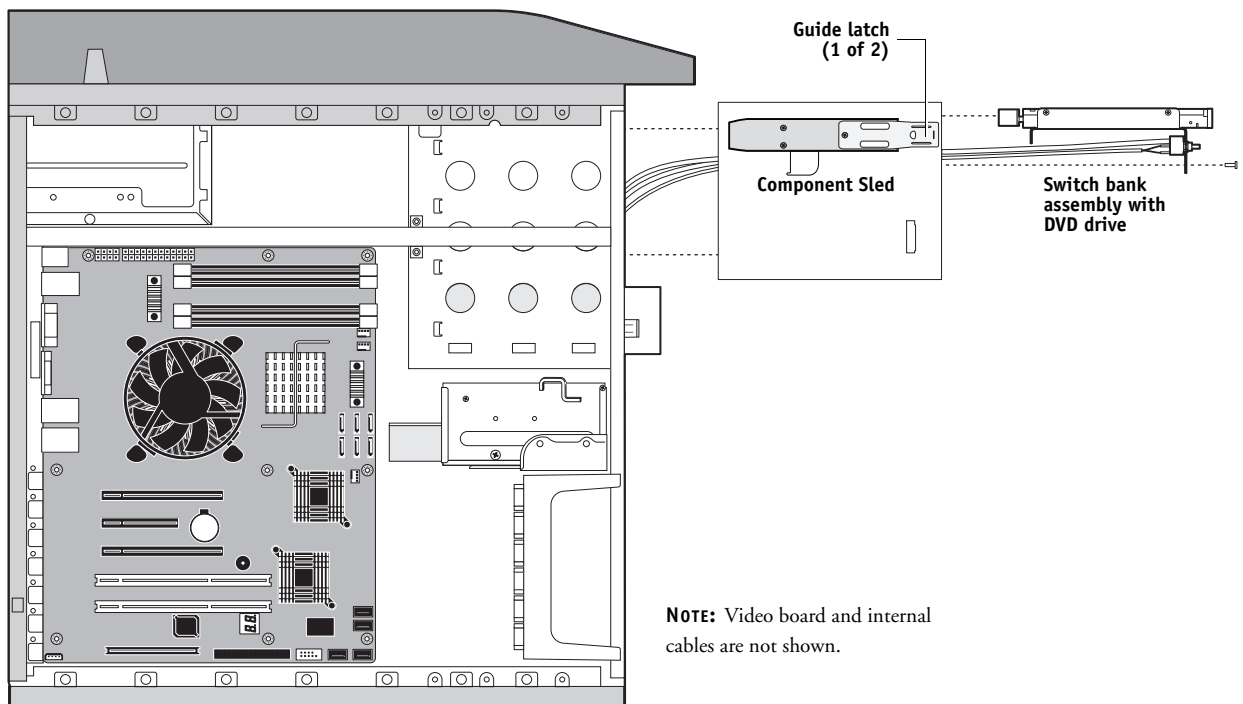

FIGURE 34: Component Sled with switch bank assembly
4. Unharness the cables from the cable clamp(s) and tie-wraps inside the chassis.**5. Remove the Component Sled from the chassis (see Figure 34 on page 99).**